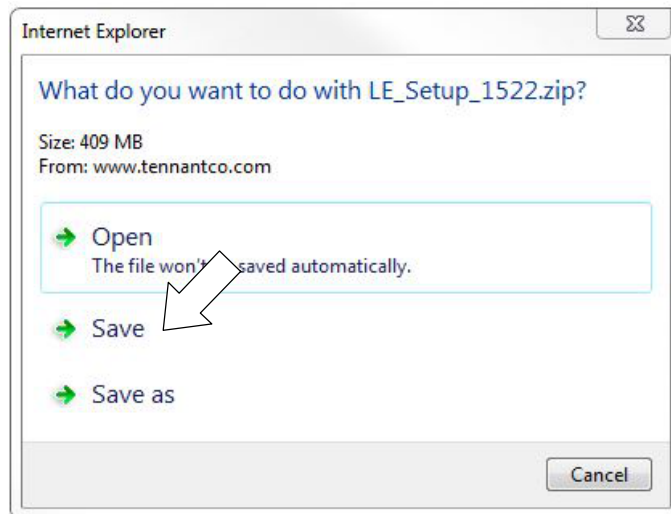

Fig. 19
5. To download the service software continue to click as instructed then click the Save button (Figure 19).